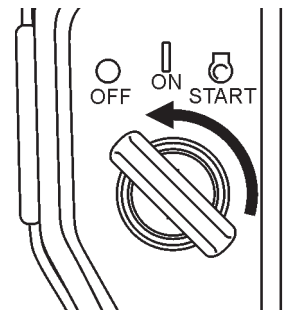

Figure 34. Ignition Switch (OFF Position)
3. Turn the **engine ON/OFF switch** (Figure 34) to the **OFF** position.
1. Turn the console **engine ON/OFF switch** (Figure 34) to the **OFF** position.